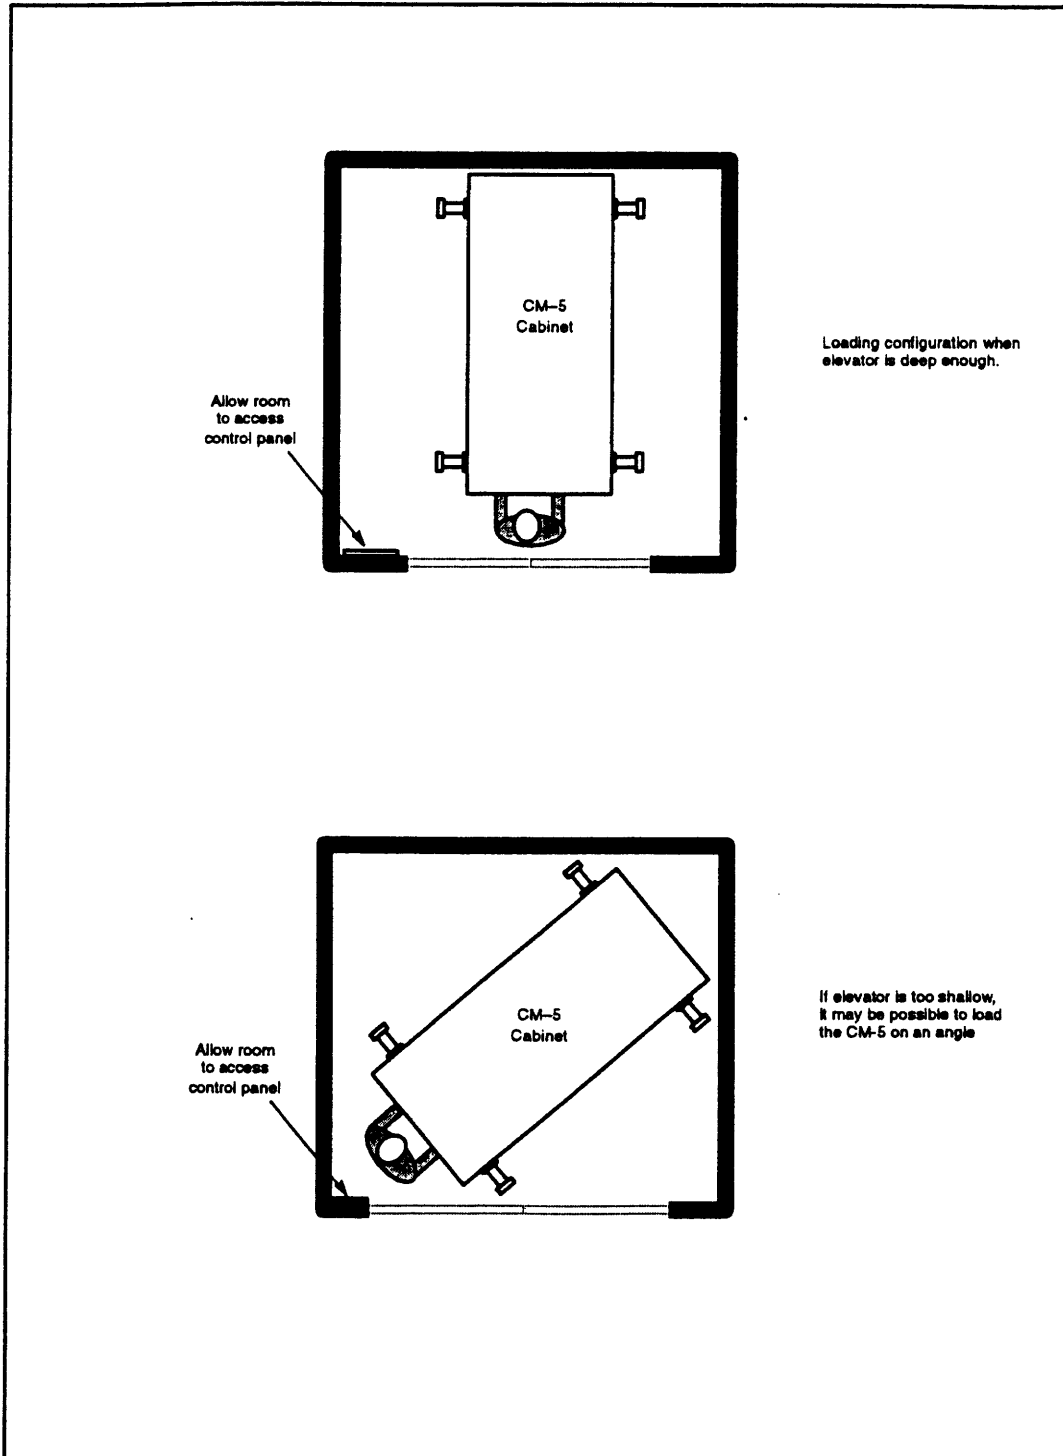

Figure 5. Conveying CM-5 via elevator in shipping crate.
- Its interior dimensions must accommodate a cabinet and at least one passenger. If the elevator is not deep enough for the cabinet to be loaded straight into the elevator, verify that it is wide enough for the cabinet to be installed at an angle. See Figure 5.